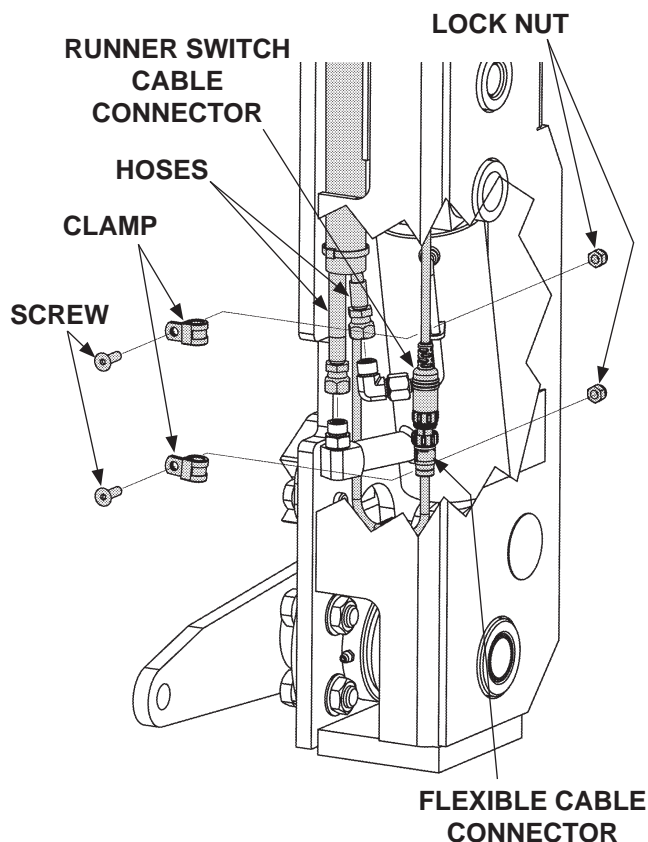

FIG. 40-1
34. Position flexible cable and twin hydraulic hoses in the channel at bottom of runner (**FIG. 40-1**).
35. Connect runner switch cable to flexible cable near bottom of runner as shown in **FIG. 40-1**. Then, use clamps and lock nuts to fasten molded portion of connectors to runner (**FIG. 40-1**).